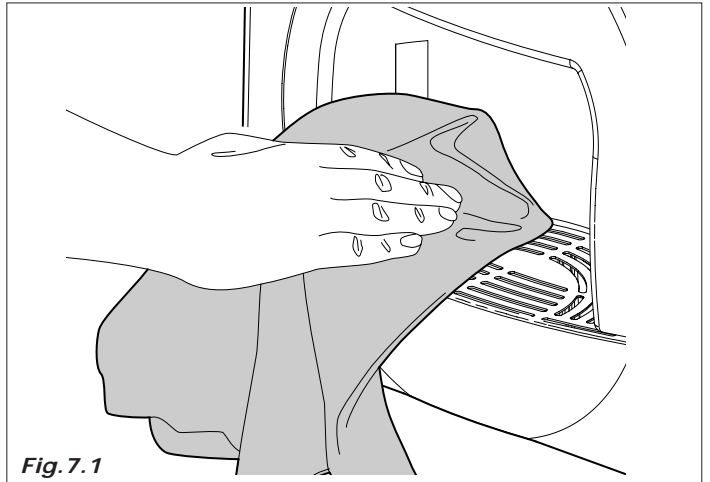
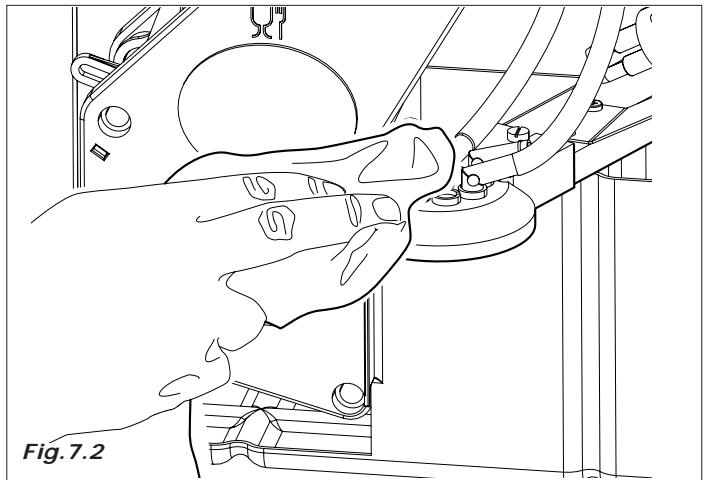

Fig. 7.1
Fig. 7.2
- clean all the visible parts in the dispensing area. (Fig. 7.1 e Fig. 7.2)